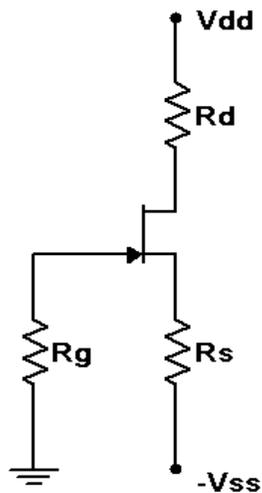

Figure 3
6. Consider the circuit of Figure 3 using  $V_{dd} = 15$  volts,  $V_{ss} = -3$  volts,  $R_d = R_s = 4.7 \text{ k}\Omega$  and  $R_g = 330 \text{ k}\Omega$ . A reasonable approximation for  $V_{GS}$  in this circuit is  $-2$  volts DC. Based on this, calculate and record the expected voltages for JFET 1 in Table 4. Also record the expected drain current in Table 5.
7. Build the circuit of Figure 3 using  $V_{dd} = 15$  volts,  $V_{ss} = -3$  volts,  $R_d = R_s = 4.7 \text{ k}\Omega$  and  $R_g = 330 \text{ k}\Omega$ . Measure and record the voltages for JFET 1 in Table 4. Based on  $V_D$ , compute and record the experimental drain current in Table 4. Also find and record the drain current deviation.
3. In general, identify two ways of decreasing the drain voltage in the circuit of Figure 3.